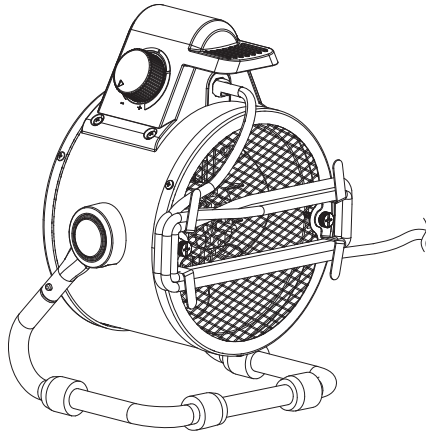

Figure 3
3. The power cable can be reeled on the hooks when the appliance is sorted, like on figure 3.